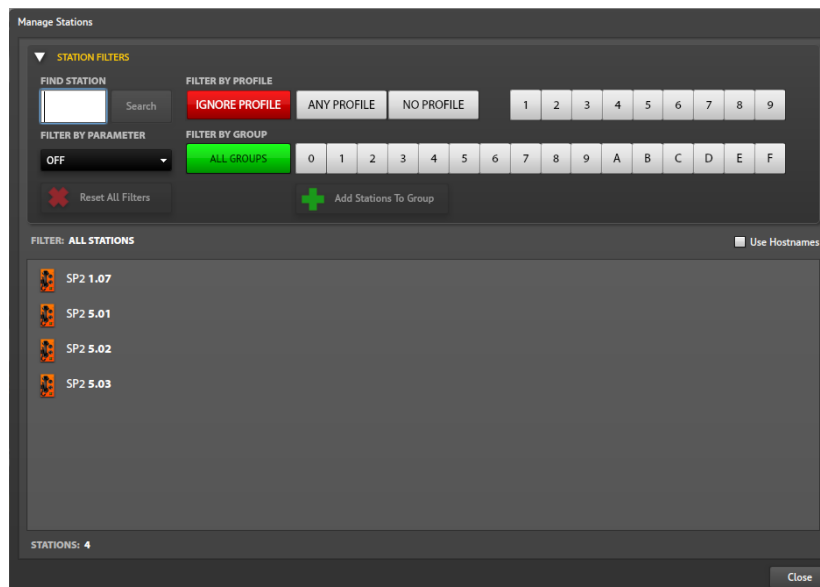

Figure 131. Manage Stations
**Station List Button**—Opens the MANAGE STATIONS screen (see Figure 131). This screen displays filtered lists of station identifiers in the E3 SP2 configuration. All stations in the configuration appear in the list of stations without a filter. The list displays the SP2 stations with the **UNIT** parameter preceding the station identifier. Double click any station in the list to open the STATION VIEW pane for that station.